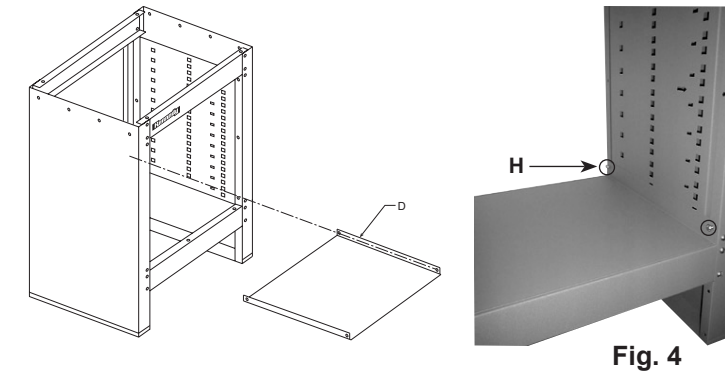

Fig. 4
1. Insert Shelf (D) into frame. Insert (4) bolts (H) through holes in Shelf, End Panel flange and Inner Panel as shown in Fig. 1, Fig. 4.